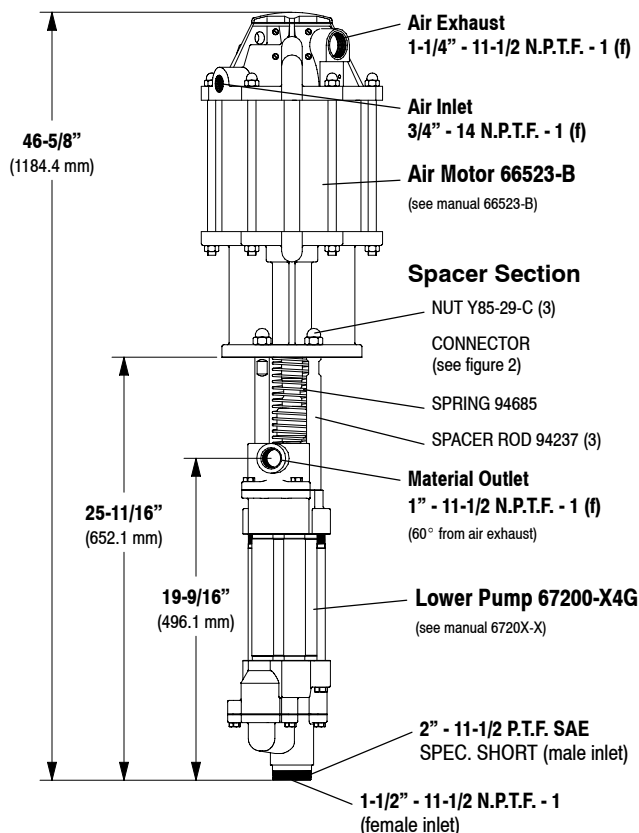

FIGURE 1
- Remove the three nuts from the three spacer rods (figure 1).